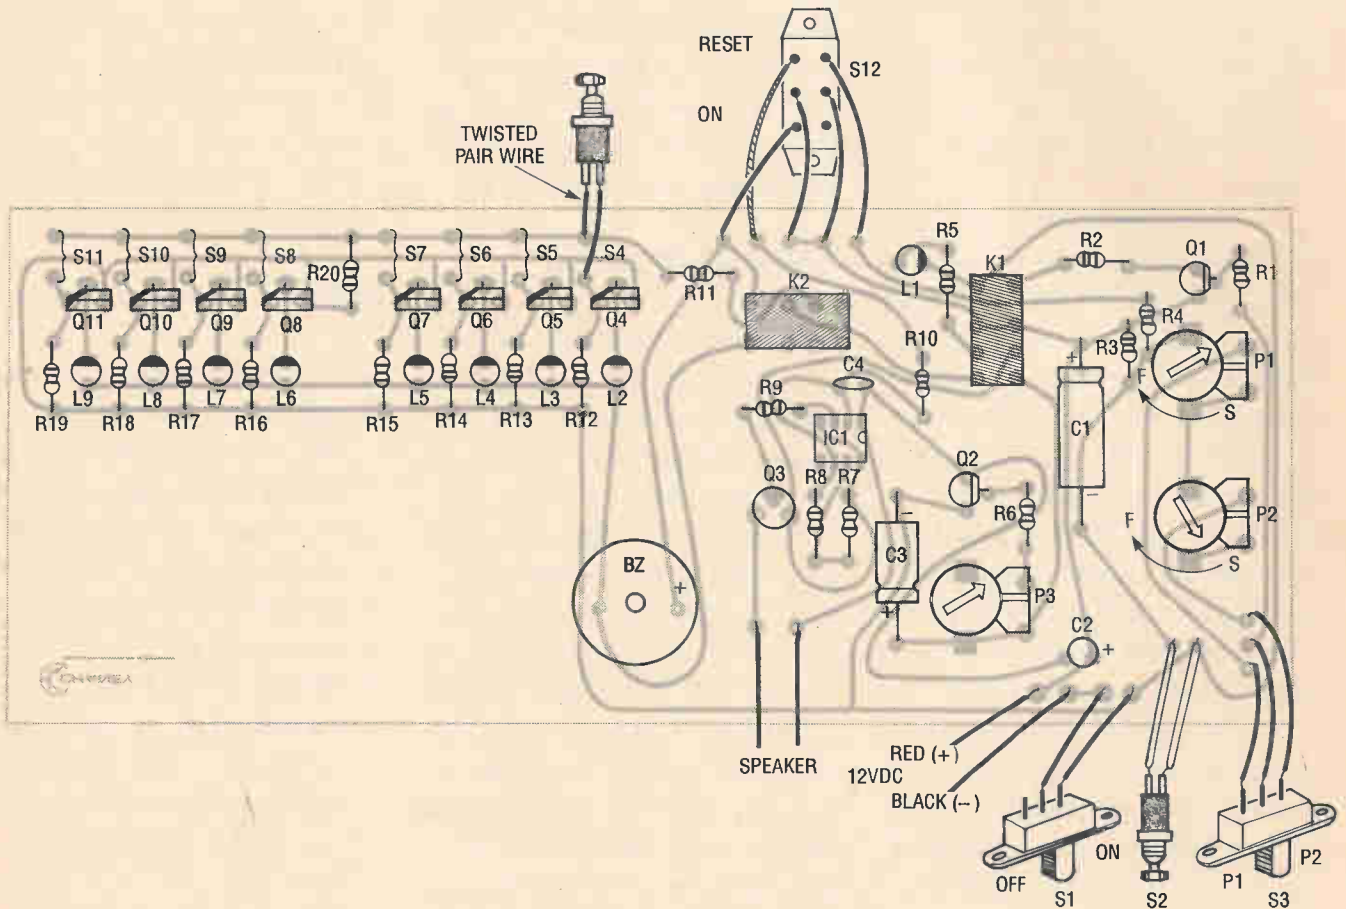

Figure 2. Carefully examine the parts-placement diagram as you assemble the Quiz Master.
1. Carefully examine the parts-placement diagram (Figure 2) and the schematic before and during construction. Make sure you have on hand all the necessary parts, as shown in the Parts List. Use only 60/40 rosin-core solder.
6. Observe the flat sides of transistors Q1 and Q2 when installing them, and install Q3 with its metal tab facing the direction shown in Figure 2. Next, install SCRs Q4 - Q11 with beveled edges in the direction shown.
9. Install the battery snap, observing the proper polarity. Cut eight 12-foot lengths of twisted-pair wire and use it to connect switches S4 - S11 to the PC board. In Figure 2, S4 is shown as an example of the correct wiring. Next, install IC1 into the IC socket, being careful to observe the IC locating marks (a notch at one end or a "dot" at pin 1).